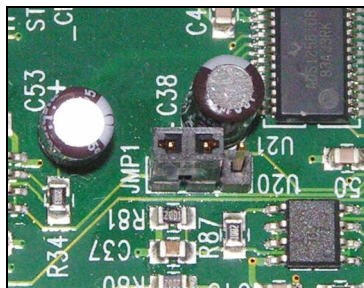

Figure 3-27. Analog Input 4 Jumper (Default Position)
4. Locate the jumper in the lower-right corner of the main SP electronics board, at position **JMP1** (see Figure 3-27).